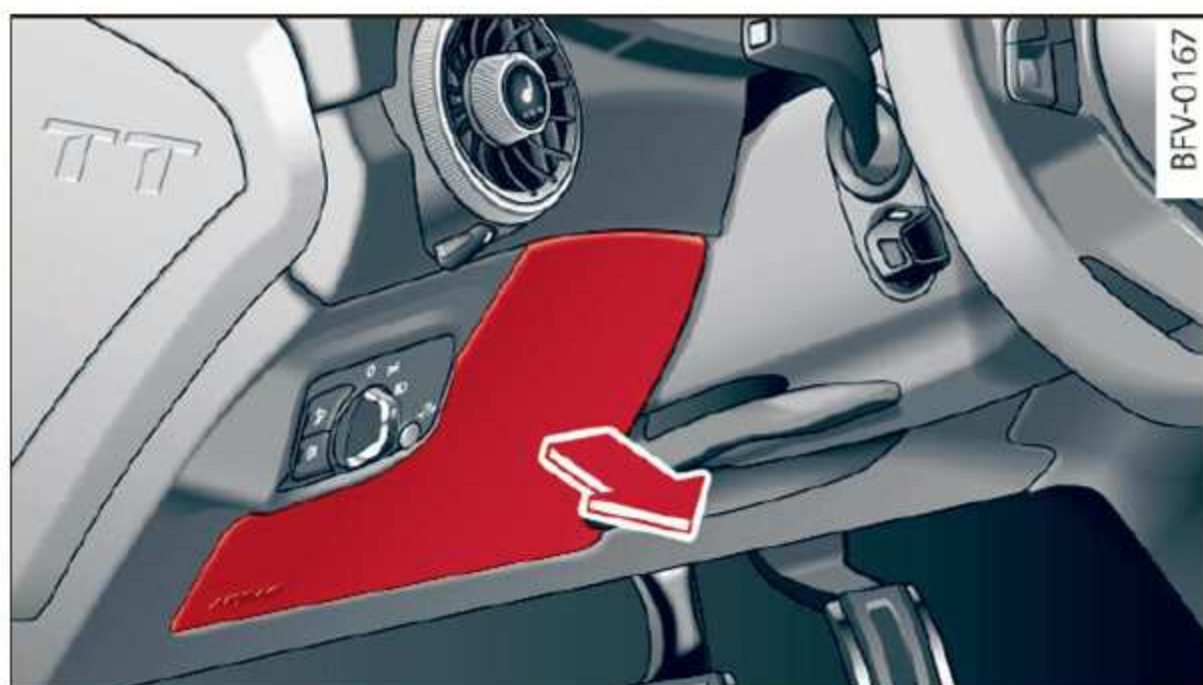

Fig. 200 Steering column area: cover
- ▶ Remove the cover ⇒ *fig. 200*.